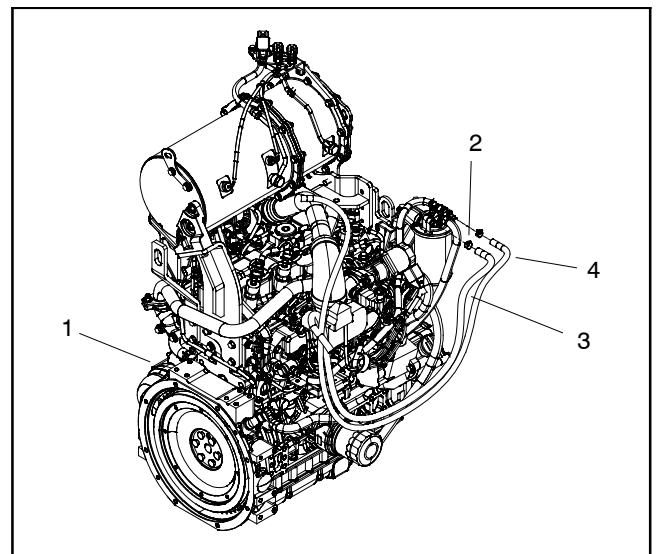

Figure 79
2. Disconnect fuel pump discharge hose from the fuel filter attached to the engine (Fig. 79).